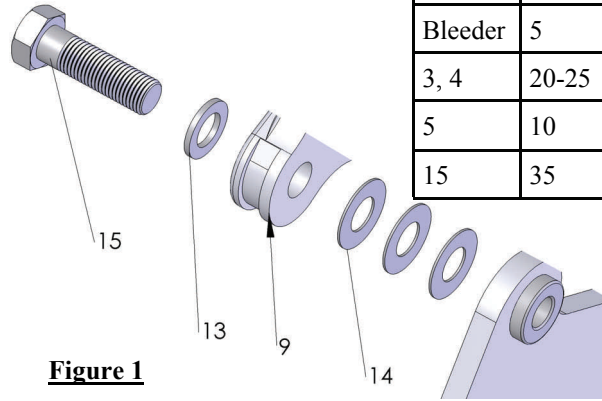

Figure 1
1.) Using one 3/8" washer (13) under the head of each 3/8" bolt (15), mount the calipers onto the caliper mounting bracket. Use .025" shims (14) to center the caliper over the rotor. The bolt (15) should be fully engaged into the press nut. If the bolt is over-engaged, used any remaining shims under the head of the bolt to prevent the bolt from running into the rotor. Press nuts and caliper should always be on opposite sides of the caliper mount. (Fig. 1).
2.) Remove caliper bridge bolt (5) and bridge bolt tube (7). Insert brake pads (12) and reinstall caliper bridge bolt and tube. Torque caliper mounting bolt to 35 ft-lbs. Then torque caliper bridge bolt to 10 ft-lbs.